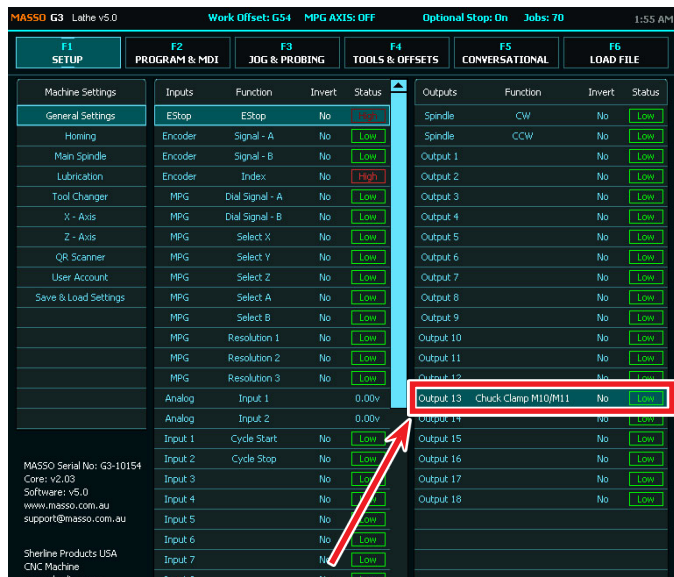

FIGURE 37—The red arrow is pointing to line Output 13.
3. First go to the F1 Setup screen on the MASSO control and make sure that “Output 13 is set to “Chuck Clamp M10/M11” (see Figure 37).